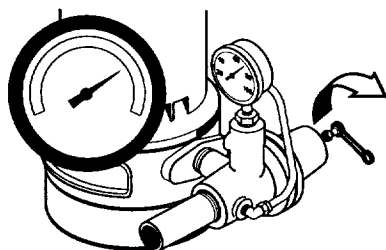
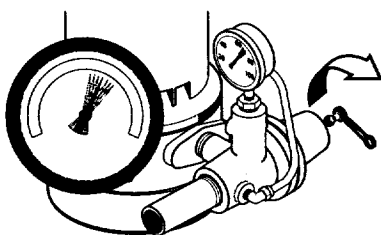
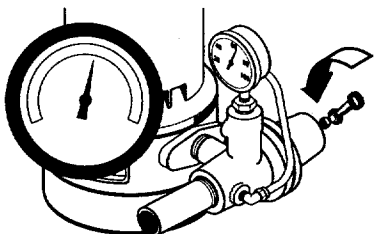

Figure 16A – Open Regulator Valve
Figure 16B – Watch for Pressure Gauge to Flutter
Figure 16C – Close Regulator Valve until Pressure Stabilizes
4. Once unit has primed and pressure stabilized, slowly open (turn counterclockwise - Figure 16A, regulator valve until pressure falters (pressure gauge needle flutters; pump may become noisy - see Figure 16B). At this point, close (turn clockwise) regulator valve slightly until pressure stabilizes. This setting provides maximum flow (Figure 16C).